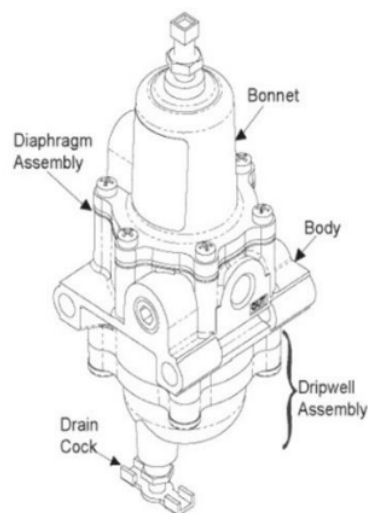
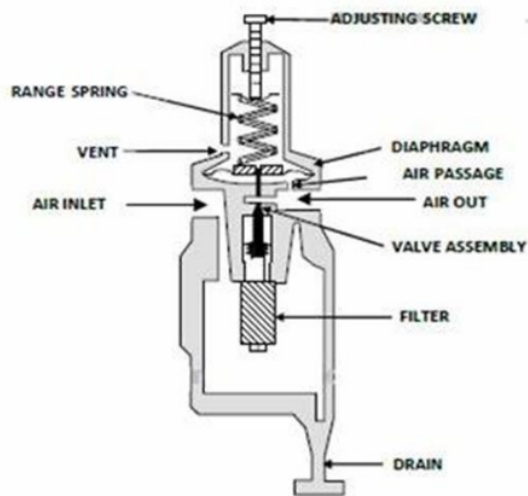

Figure 3 - Shows a Filter Regulator
Figure 4 - Shows the components to an Air Filter Regulator
For a pneumatic system, air pressure regulators are very simple equipment that are used to lower the main air pressure supply from the plant to a pressure which is suitable for the air operated equipment. Most pneumatic equipment require clean, dry air, with no moisture content in the air. Filters are commonly used within the pressure regulator which can also be called an air filter regulator. Figure 3 shows a filter regulator. Filter regulators are used to ensure water and particulate removal and accurate control of downstream pressure, which is key in the safe supply of compressed air to pneumatic equipment such as valves and DCV's and ensures good performance of the equipment. Air filter regulators will collect debris and need be cleaned or replaced on a regular basis. Using figure 4 as a reference, the air supply is connected to the air inlet port and passes through the filtering chamber at the bottom of the regulator. When air is passed through the filter it removes any dirt particles and moisture in the incoming air which could potentially block components and pipework. From the filter chamber the air then goes into the valve assembly where the valve assembly is moved by the range spring pressing on the diaphragm. The range spring will then hold the valve assembly down until the output pressure is high enough to lift the diaphragm through an air passage within the regulator. The small spring within the valve assembly then closes the valve, air is then passed through a hole at the centre of the diaphragm and out of the vent to maintain balanced pressure across the diaphragm. If the outlet pressure is above the set pressure of the range spring, the air will begin to vent. When the outlet pressure is correct, the valve assembly opens to the correct set pressure and goes out the outlet port. If the outlet pressure is below the set pressure the valve assembly will stay open until the required pressure has been reached.
□ Detailed labelling No need for 'Shows a.....' The correct layout is: e.g. 'Figure 3 - Filter Regulator'